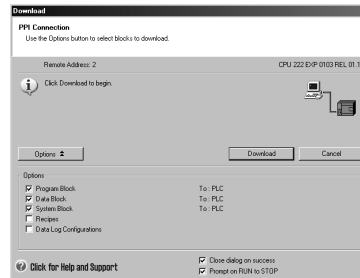

Figure 2-11 Downloading the Program
1. Click the Download icon on the toolbar or select the **File > Download** menu command to download the program. See Figure 2-11.